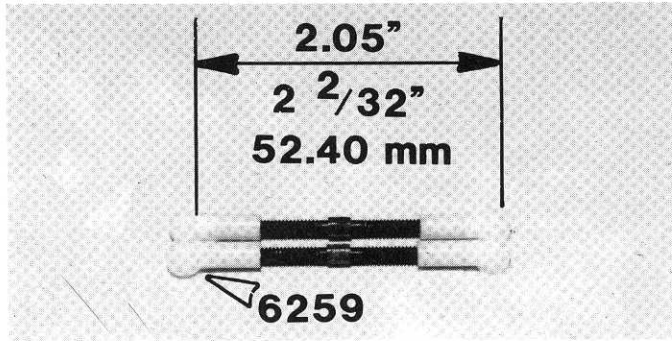

Fig. 17
□ **Fig. 17** Screw the plastic ball rod ends onto the rods, as shown. The rods have a LH thread on one end and a RH thread on the other end, so they will screw on in different directions. Screw them on evenly to the dimension shown, which is measured from the center of the ball cup.